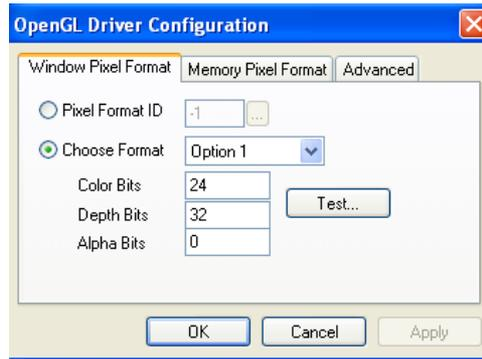

Figure 5-94 OpenGL Driver Configuration dialog box
4. In the *OpenGL Driver Configuration* dialog box (Figure 5-94), select Pixel Format ID and enter this number.